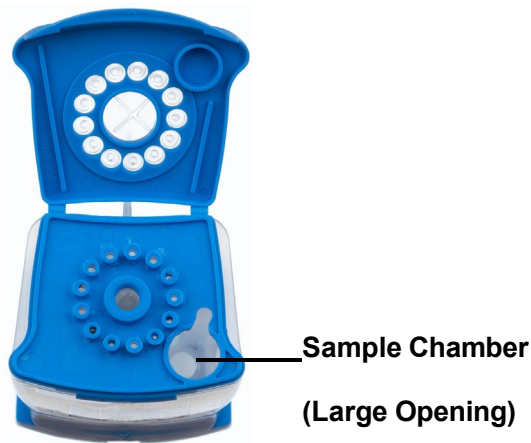

Figure 8. Xpert Mpxx Cartridge (Top View)
17. To transfer the patient specimen to the cartridge, squeeze the top bulb of the transfer pipette completely again to empty the contents of the pipette into the large opening (Sample Chamber) of the cartridge shown in Figure 8. Dispose of the used pipette.
5. Using a **new exact volume transfer pipette** provided in the kit, transfer one draw (300 µl) of the diluted Positive Control material into the large opening (Sample Chamber) in the cartridge shown in Figure 8.
9. Using a new exact volume transfer pipette provided in the kit, add one draw (300 µl) of the Negative Control material into the large opening (Sample Chamber) in the cartridge shown in Figure 8.